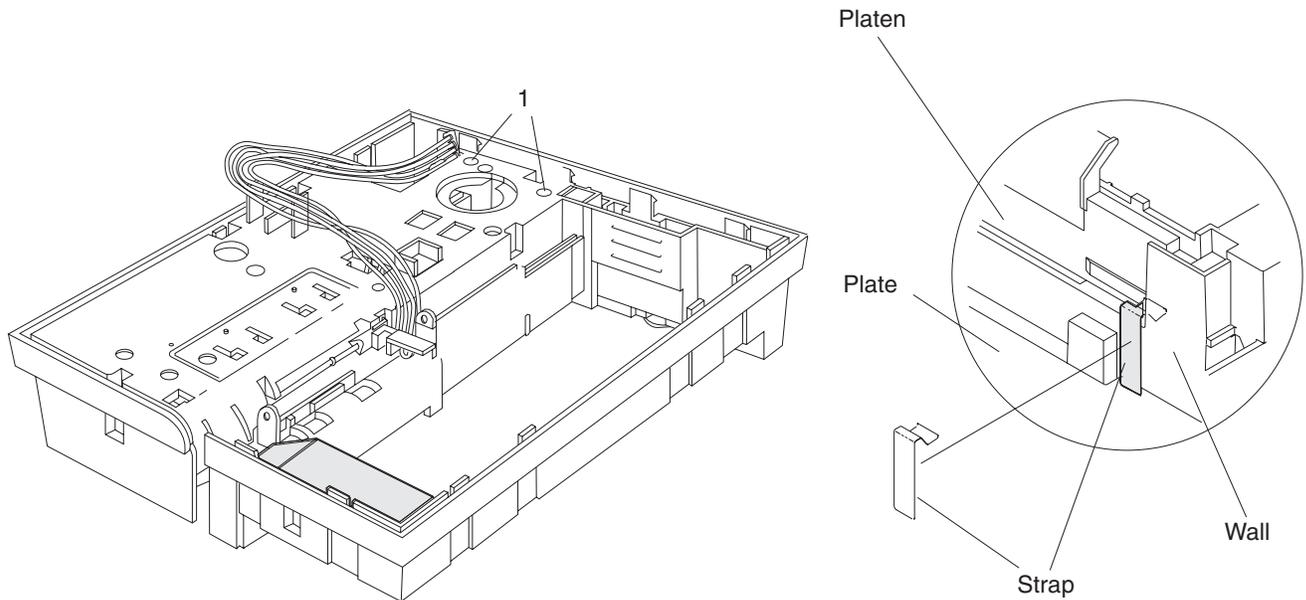

Figure E-8. Platen Grounding Strap
- 27** Remove the platen retainers (12).
- 28** Check to ensure that the platen grounding strap is properly seated. See Figure E-8 on page E-9.
- 29** Hold the platen assembly (13) at the journal station and lift up until the top roller (14) can be removed.